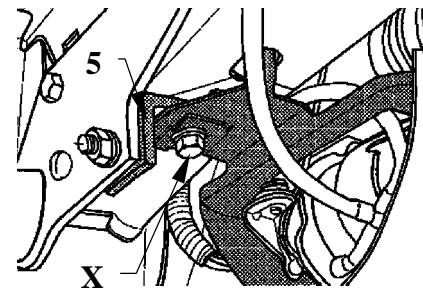

Fig. 2
2. Fix loosely right angle bar (pos. 5) to the right side of the chassis through hole (pos. A) using bolt M10x35mm (pos. 8).
**For models without level adjustment:** Fix loosely left angle bar (pos. 5) to the left side of the chassis through hole (pos. A) using bolt M10x35mm (pos. 8).
**For models with level adjustment:** Remove bolt X shown in figure 2, place angle bar (pos. 5) between just removed plate and the chassis. Fix loosely using bolt M10x35mm.